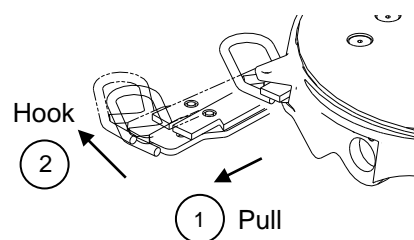

FIGURE 4B
- For Retractable Handle: Pull handle out and hook the handle in open position using notch (see figure 4B).